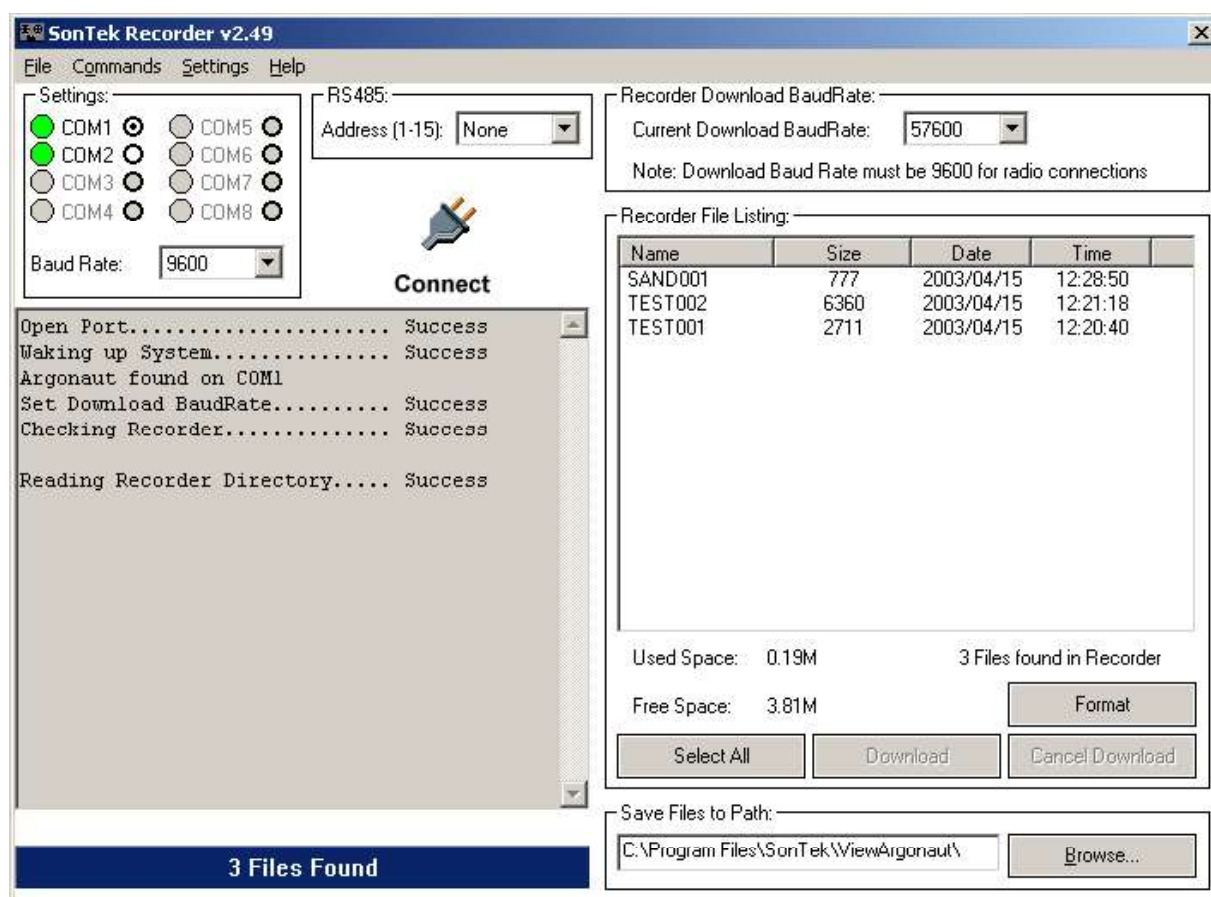

Figure 6-2. ViewArgonaut Recorder module
- Run *ViewArgonaut*, and then click the **Recorder** button from the main menu. This will open the *ViewArgonaut* Recorder module (Figure 6-2).
- Click the **Connect** icon. The software will wake up the system and download the recorder's directory. This process may take a few minutes. The directory will be similar to the one shown in Figure 6-2.